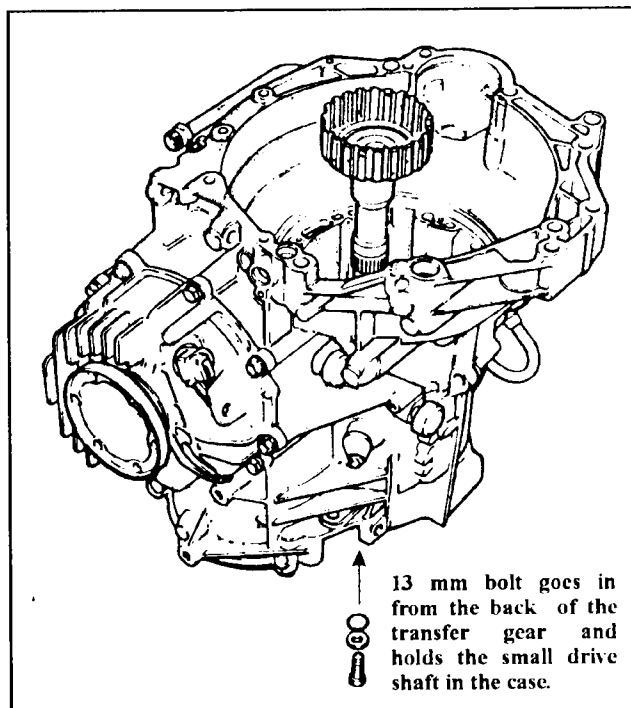

Figure 63
12. Remove the rear transfer gear cover and locate the 13mm bolt in the rear of the output shaft (See Figure 63).
14. Remove the small drive shaft for the planetary carrier from the transmission. (See Figure 63)